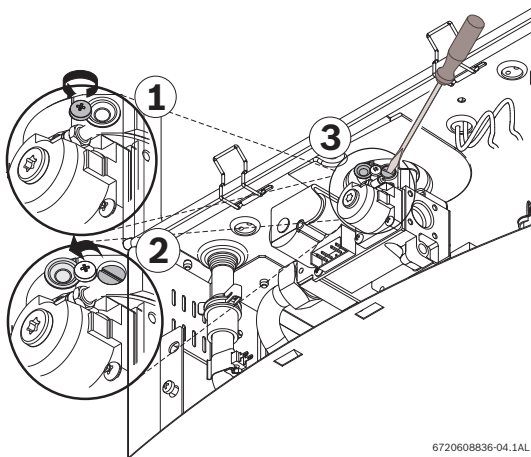

Fig. 70 Adjusting P1 CO₂ level
- ▶ Loosen yellow painted Phillips screw (1) and cover should rotate down (2) revealing a recessed brass slotted screw. Fig. 70.